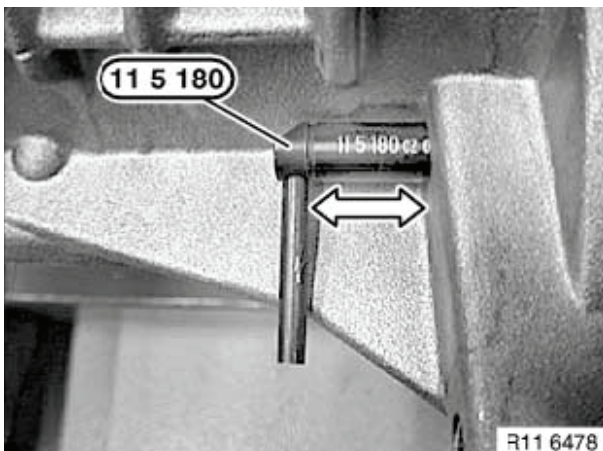

Figure 5-95
13. **NOTICE: NEVER rotate the crankshaft backward. If the crankshaft is turned past TDC, rotate two more turns (720°) to bring No. 1 piston back to TDC.** Secure crankshaft in TDC position with flywheel holding tool (**Figure 5-95**).